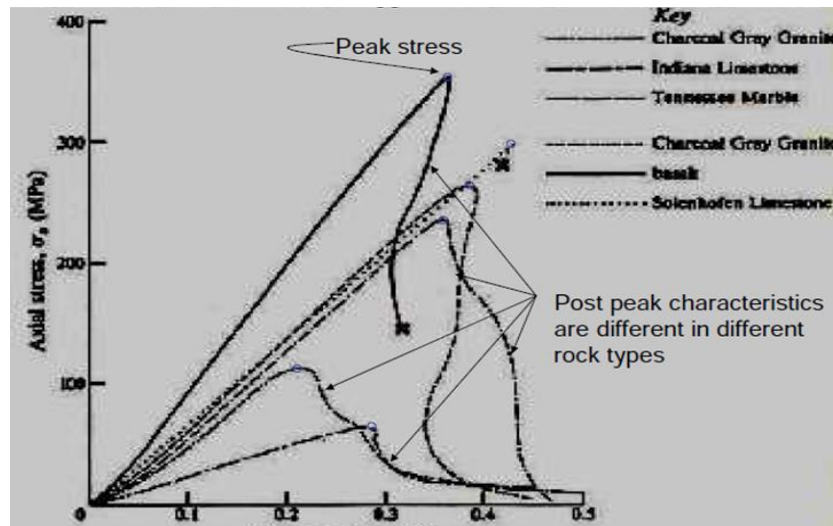

Figure Q6
6. Explain the method to find out the uniaxial stress-strain behavior of rock. Fig. Q6 shows uniaxial stress-strain behavior of different rocks. Give your specific comments/observation on the stress-strain behavior shown.